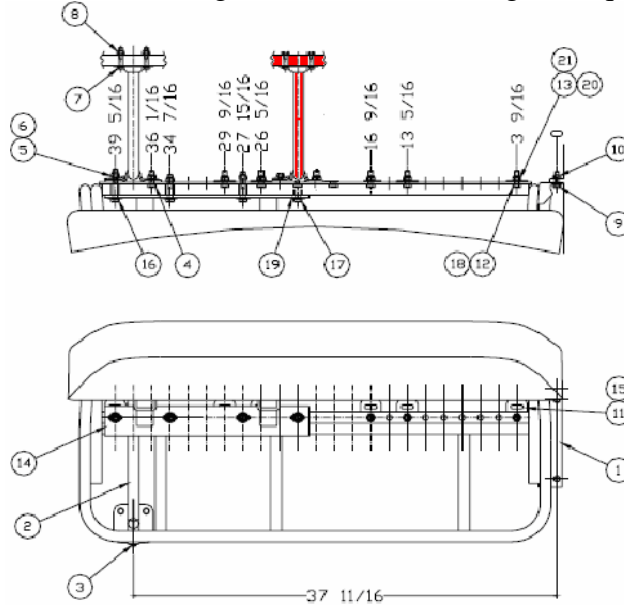

Figure 1: Additional leg location on CeWhite 45in seat
1. Install an additional leg, on the CeWhite 45inches seat, according the figure 1.